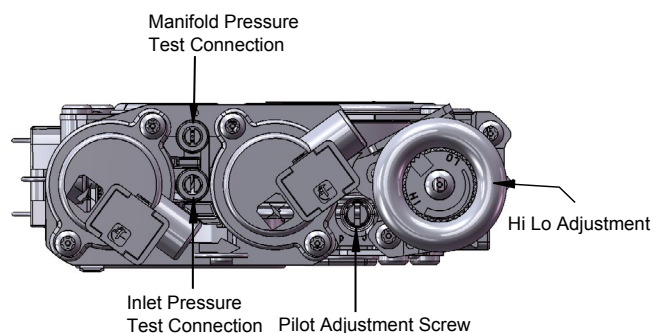

**Figure 32.** 'Hi-Lo' Adjustment on the SIT Nova 820 gas valve,
1. Locate Pilot Adjustment Screw. (See **figure 32 or 33**.)